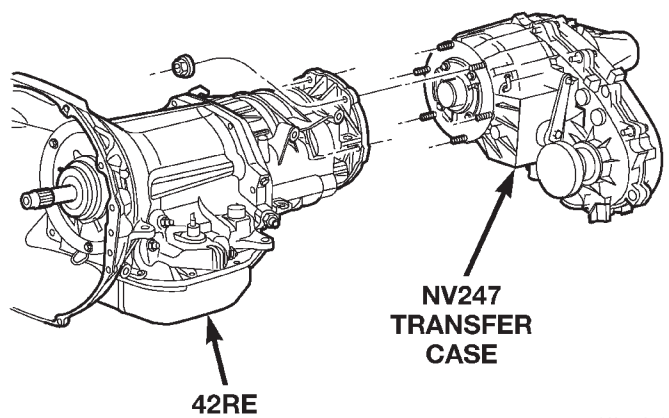
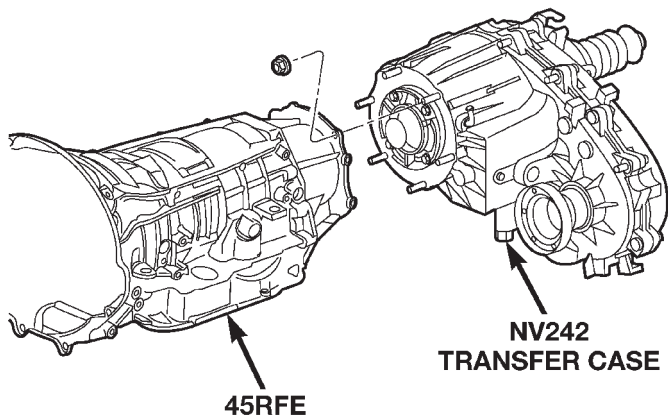

Fig. 20 Remove NV247 Transfer Case
Fig. 21 Remove NV242 Transfer Case
(21) Remove transfer case (Fig. 20) and (Fig. 21).